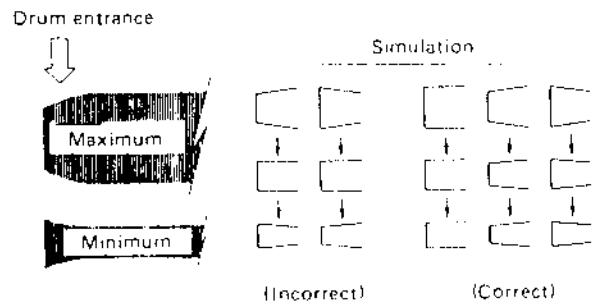

Fig. 1-6-2 Drum entrance
- 2) If the variation is not parallel at the rising portion (drum entrance) of the FM envelope, turn the supply guide roller so that the rising portion of the envelope becomes nearly flat, as shown in Fig. 1-6-2.